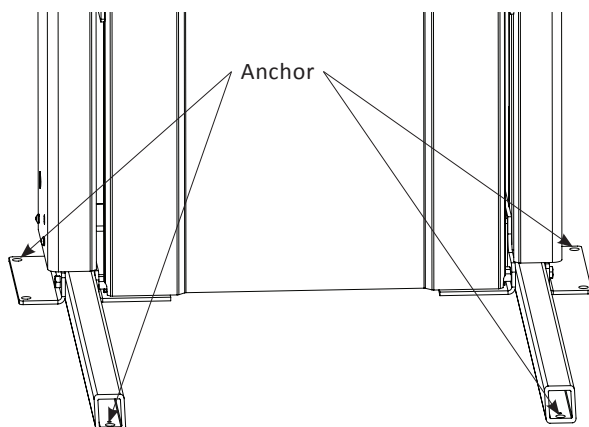

Figure 4-21
Install two (2) anchors at the back of the tower and two (2) anchors into the tower legs. *See figure 4-21.*